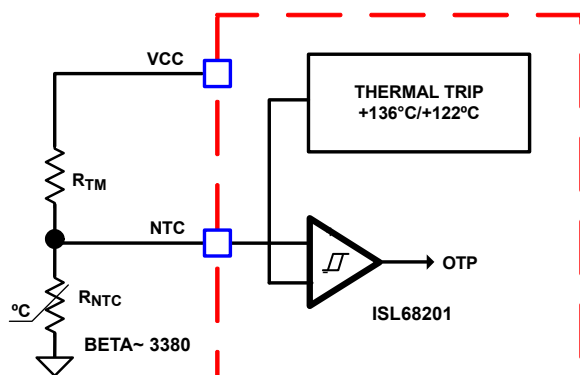
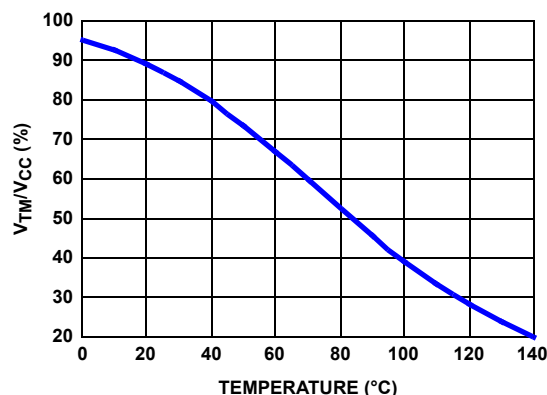

FIGURE 16. BLOCK DIAGRAM OF THERMAL MONITORING AND PROTECTION
FIGURE 18. THE RATIO OF TM VOLTAGE TO NTC TEMPERATURE WITH RECOMMENDED PART
The thermal monitoring function block diagram is shown in Figure 16 on page 18. One NTC resistor should be placed close to the respective power stage of the voltage regulator VR to sense the operational temperature, and pull-up resistors are needed to form the voltage dividers for the NTC pin. As the temperature of the power stage increases, the resistance of the NTC reduces, resulting in the reduced voltage at the NTC pin. Figure 18 on page 18 shows the TM voltage over the temperature for a typical design with a recommended 10kΩ NTC (P/N: NCP15XH103J03RC from Murata, $\beta = 3380$) and 1.54kΩ resistor RTM. It is recommended to use those resistors for accurate temperature compensation because the internal thermal digital code is developed based on these two components. If a different value is used, the temperature coefficient must be close to 3380 and RTM must be scaled accordingly. For instance, if NTC = 20kΩ ($\beta = 3380$), then RTM should be $20\text{k}\Omega/10\text{k}\Omega \times 1.54\text{k}\Omega = 3.08\text{k}\Omega$.
Based on the V_{CC} voltage, the ISL68201 converts the NTC pin voltage to a digital signal for temperature compensation. With the nonlinear A/D converter of the ISL68201, the NTC digital signal is linearly proportional to the NTC temperature. For accurate temperature compensation, the ratio of the NTC voltage to the NTC temperature of the practical design should be similar to that in Figure 18.
1. Properly choose the voltage divider for the NTC pin to match the NTC voltage vs temperature curve with the recommended curve in Figure 18 on page 18.
As shown in Figure 16 on page 18, there is a comparator with hysteresis to compare the NTC pin voltage to the threshold set. When the NTC pin voltage is lower than 22.31% of the V_{CC} voltage (typically +136 °C), it triggers Over-Temperature Protection (OTP) and shuts down the ISL68201. When the NTC pin voltage is above 27.79% of the V_{CC} voltage (typically +122.4 °C), the ISL68201 resumes normal operation. When an OTP fault is declared, the controller forces the LGATE and UGATE gate-driver outputs low.